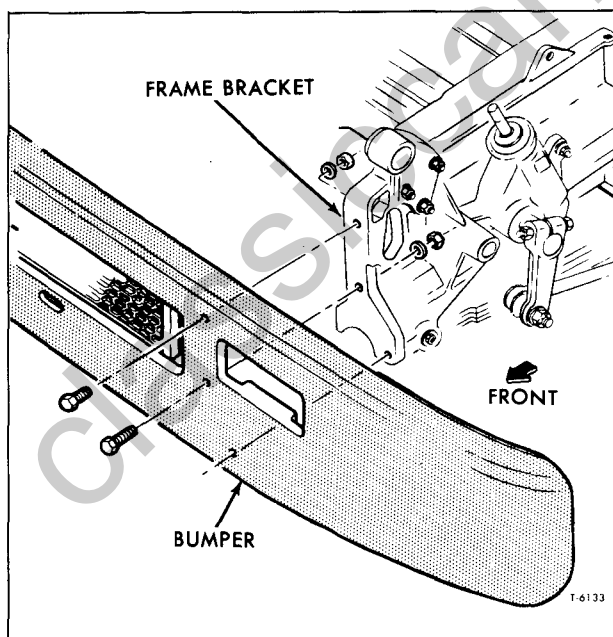

Figure 34—Front Bumper Installation
Bumpers are attached to front cab tilting pivot assembly with six (6) bolts (fig. 34). To remove bumpers, place a box-end wrench on bolt head and remove nut and washer at pivot assembly. To prevent damage to bumper finish, DO NOT allow bumper bolts to turn when removing or installing. Tighten bumper bolt nuts to 50-60 foot-pounds torque.